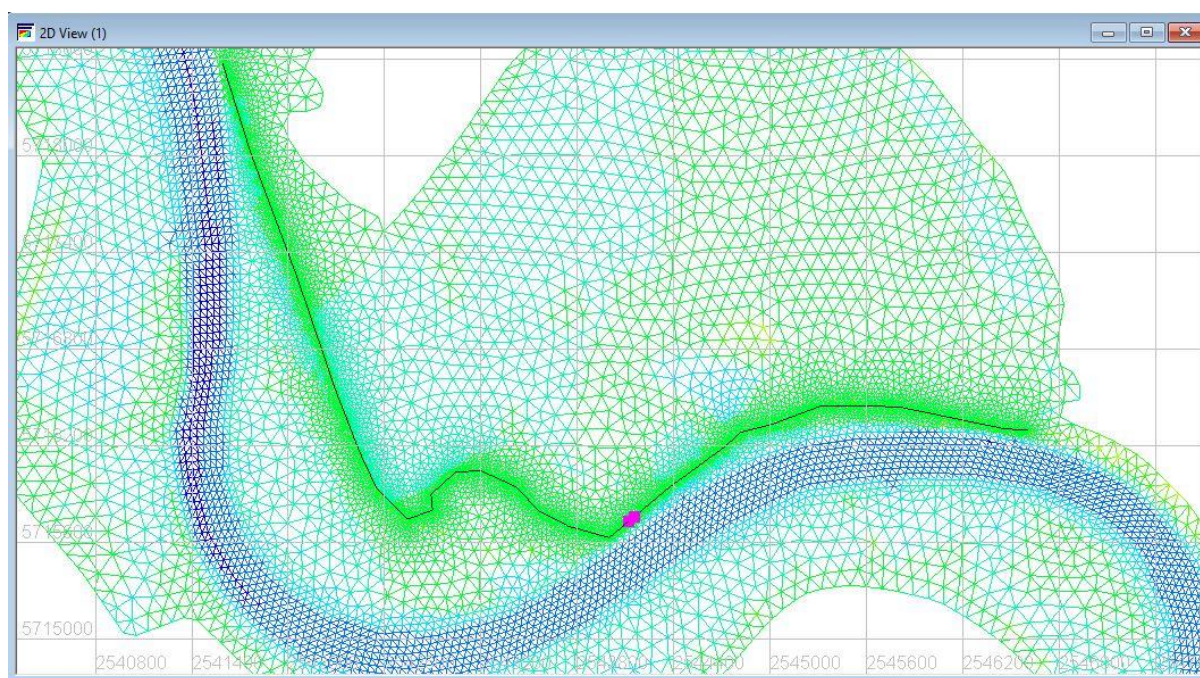

Figure 65. Selecting the dyke breach place
- Selection of the dyke breach place depends on the analysis. For this project, dyke breach place is selected a bit near the upstream part (Figure 65). Feel free to change the dyke breach place for further analysis.